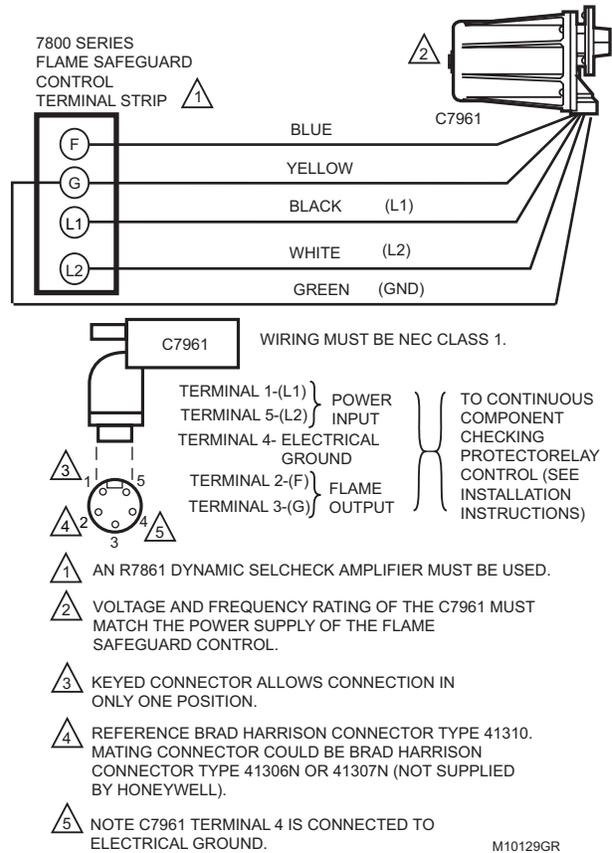

Fig. 10. Wiring diagram for C7961E,F Detectors with 7800 Series Flame Safeguard controls.
WIRING (FIG. 10)
- Refer to Fig. 10 for wiring connections.
It is suggested that a volt-ohm meter with a minimum sensitivity of one megohm/volt and a zero to five or ten Vdc scale be used for R7861 Amplifier flame signal measurements. Measure the flame signal as illustrated in Fig. 10. Be careful to make the proper connections of positive (red) meter lead to positive (+) control jack and negative (black) meter lead to negative (-) or (-Com) jack with 7800 Series controls. When the 7800 Series control has a Keyboard Display Module, a zero to five Vdc voltage is displayed on the module.